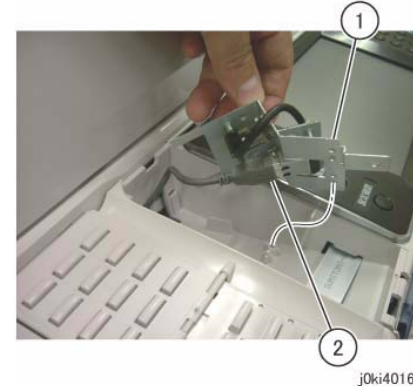

Figure 4 Remove the USB Connector
6. Remove the USB Connector. (Figure 4)